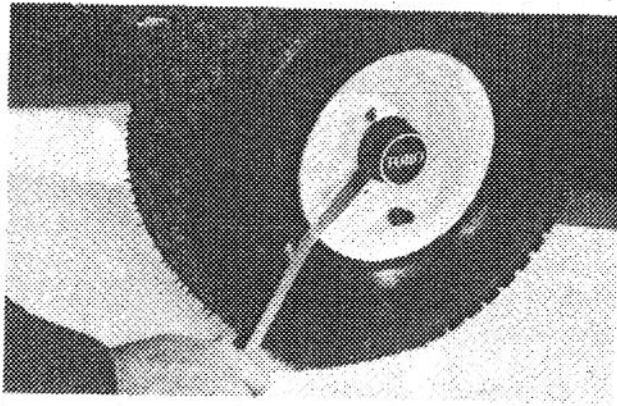

Figure 43
3. Use a pry bar to lever the hub cap off the axle (Fig. 43).